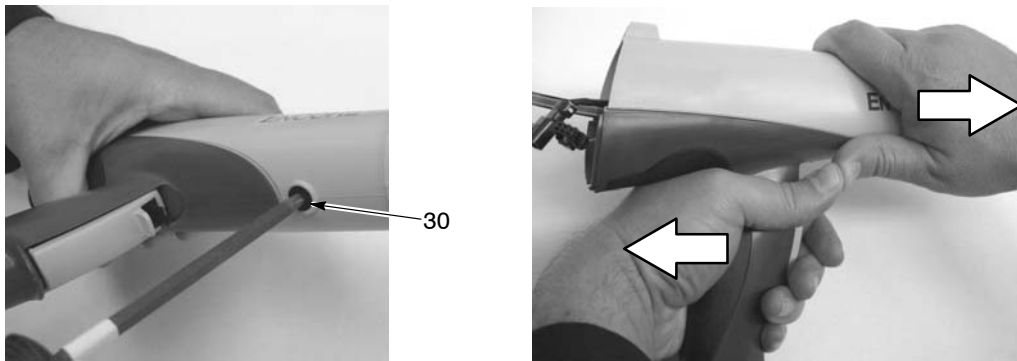

Figure 6-3 Removing the Gun Body from the Handle
4. See Figure 6-3. Remove the black nylon screw (30) from the gun body.